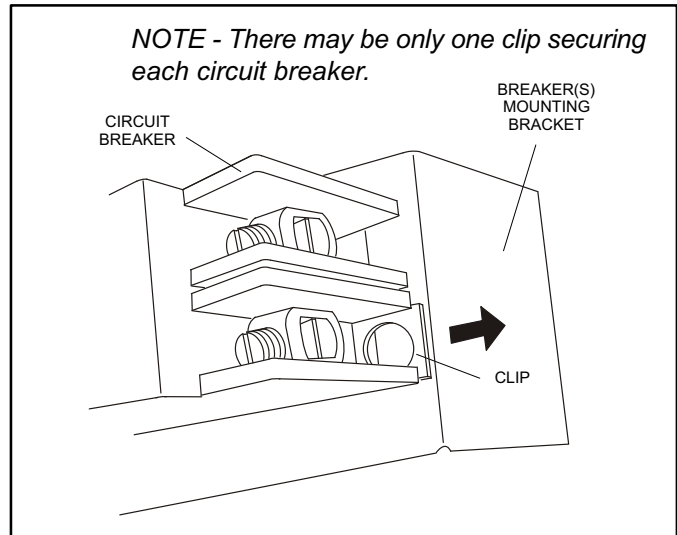

Figure 8. Circuit Breaker Clip
2. Locate the one clip which is located on the right side (see arrow) of each breaker (see figure 8). The clip secures the circuit breaker to the mounting bracket. Pull the clip to release the breaker from the mounting bracket.